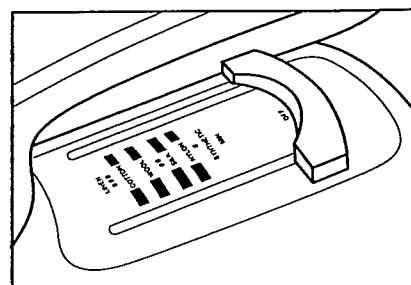

Figure 7
2. Slide the temperature control lever to the OFF position (see Figure 7).
2. Slide the temperature control lever to the OFF position (Figure 7).
2. Slide the temperature control lever to the OFF position. (See Figure 7.)
1. Slide the temperature control lever to the OFF position. (See Figure 7.)